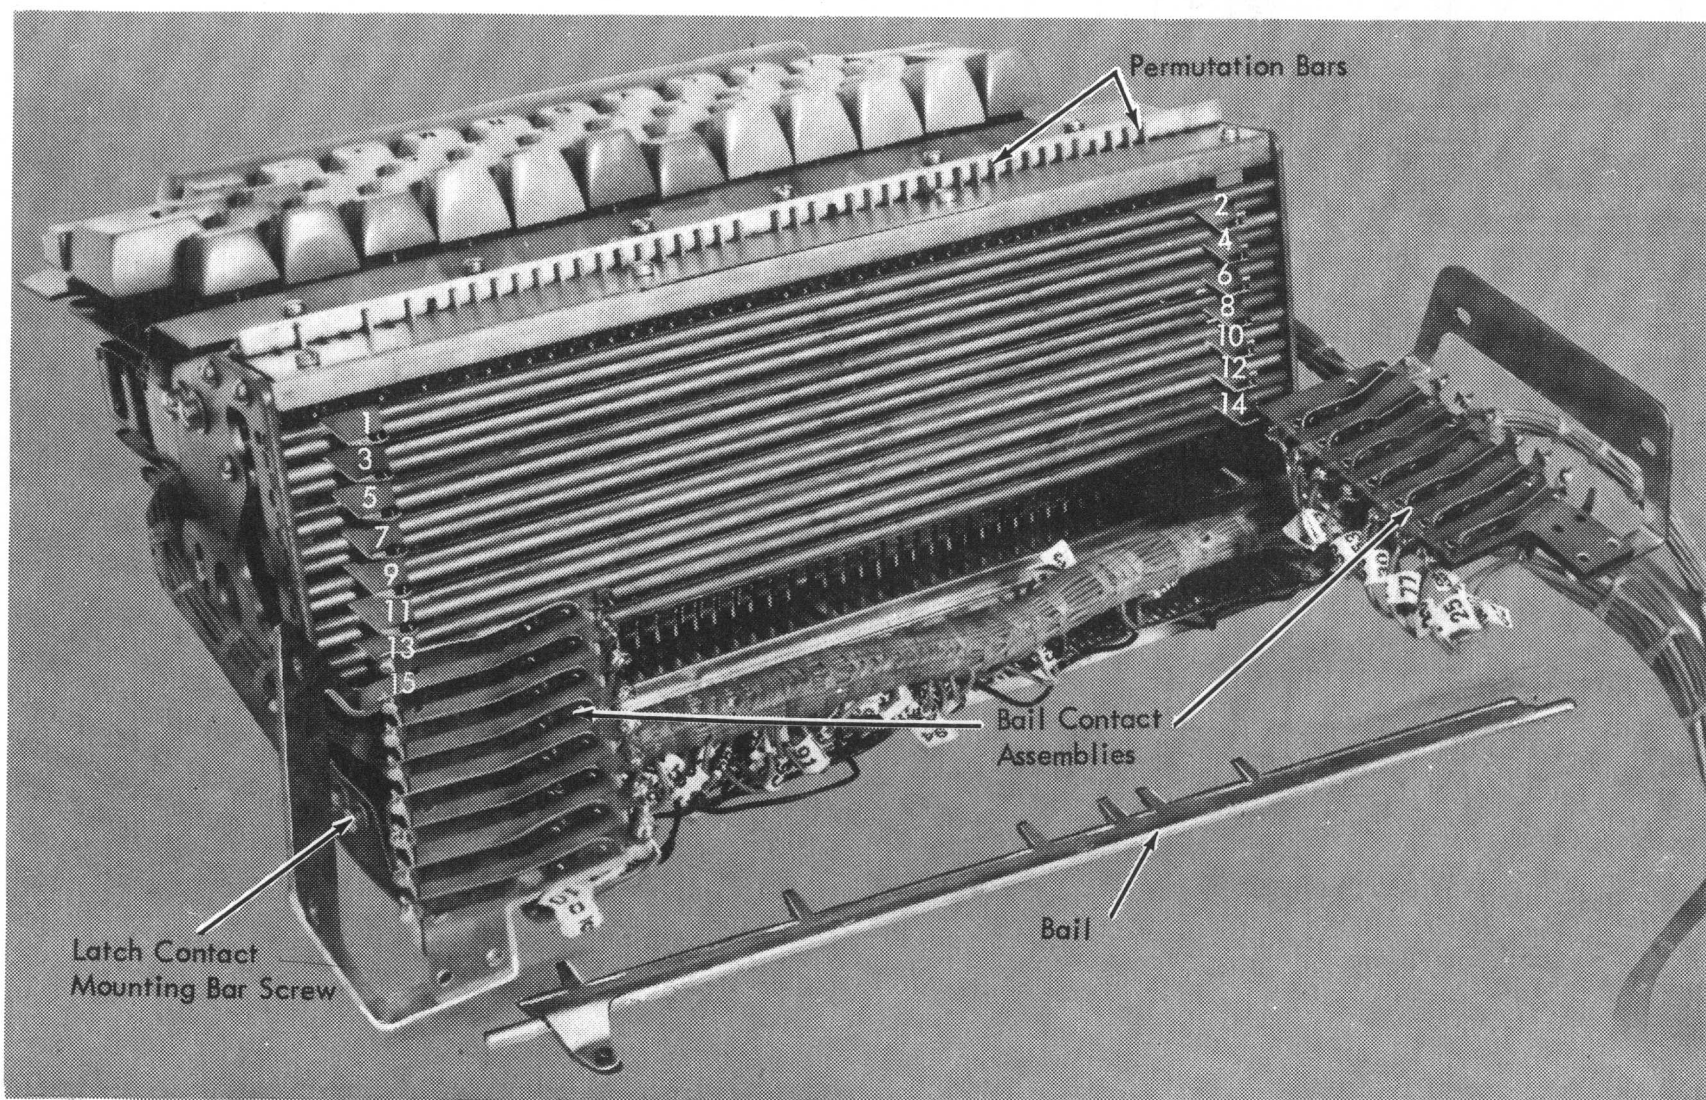

Figure 4-54. Keyboard Permutation Unit – Rear
When a new bail (Figure 4-54) is installed, form all tabs on each bail for 0.000-inch to 0.005-inch clearance to associated operation ears on permutation bar, with latch assemblies in restored position. This may be checked on a keyboard with its covers removed. Check tension required to just open a closed bail contact for each key that operates that bail; tension should be at least 15 grams. Bail contact air gap and tension on operating strap affects this tension and should be checked before a measurement is attempted.
1. Remove the two bail contact assemblies shown in Figure 4-54. Each assembly is held by two screws and may be shimmed away from the side frame. Note the position of these shims.
5. Remove the two bail contact assemblies shown in Figure 4-54.
6. Remove the contact bails; they are numbered 1 to 15, top to bottom (Figure 4-54).